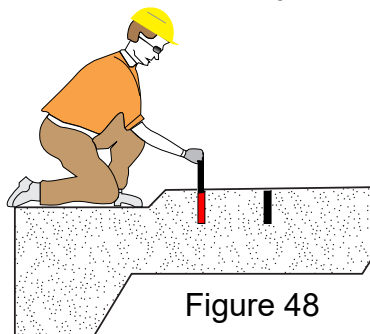

Figure 48
STEP 6 Insert the two M16 x 290 mm threaded anchor rods. Rotating movement will stir the resin in order to mix it with the residue dust in the hole ensuring a sufficient thread contact. **See Figure 48**